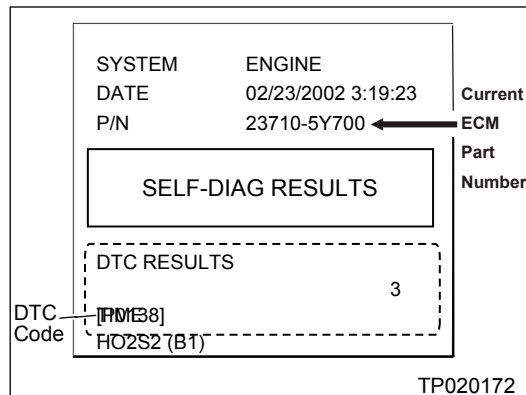

Figure 1
- Figure 1 is an example of the CONSULT-II Self-Diagnosis printout.